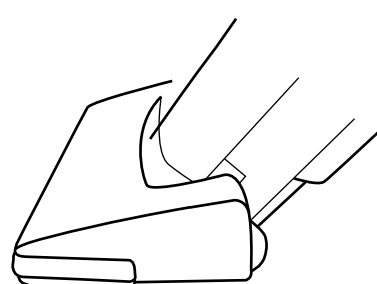

Fig. 14
- Middle position – for normal cleaning (Fig. 14).